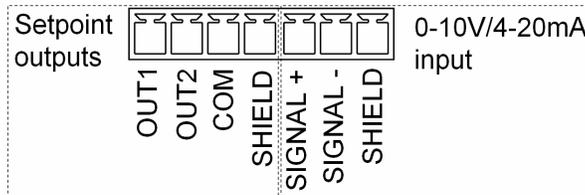

Figure 5: Interface of the 0-10V/4-20mA input converter.
- § Connect the signals as shown in Figure 5.
- § Connect setpoint outputs as shown in Figure 5, if used.